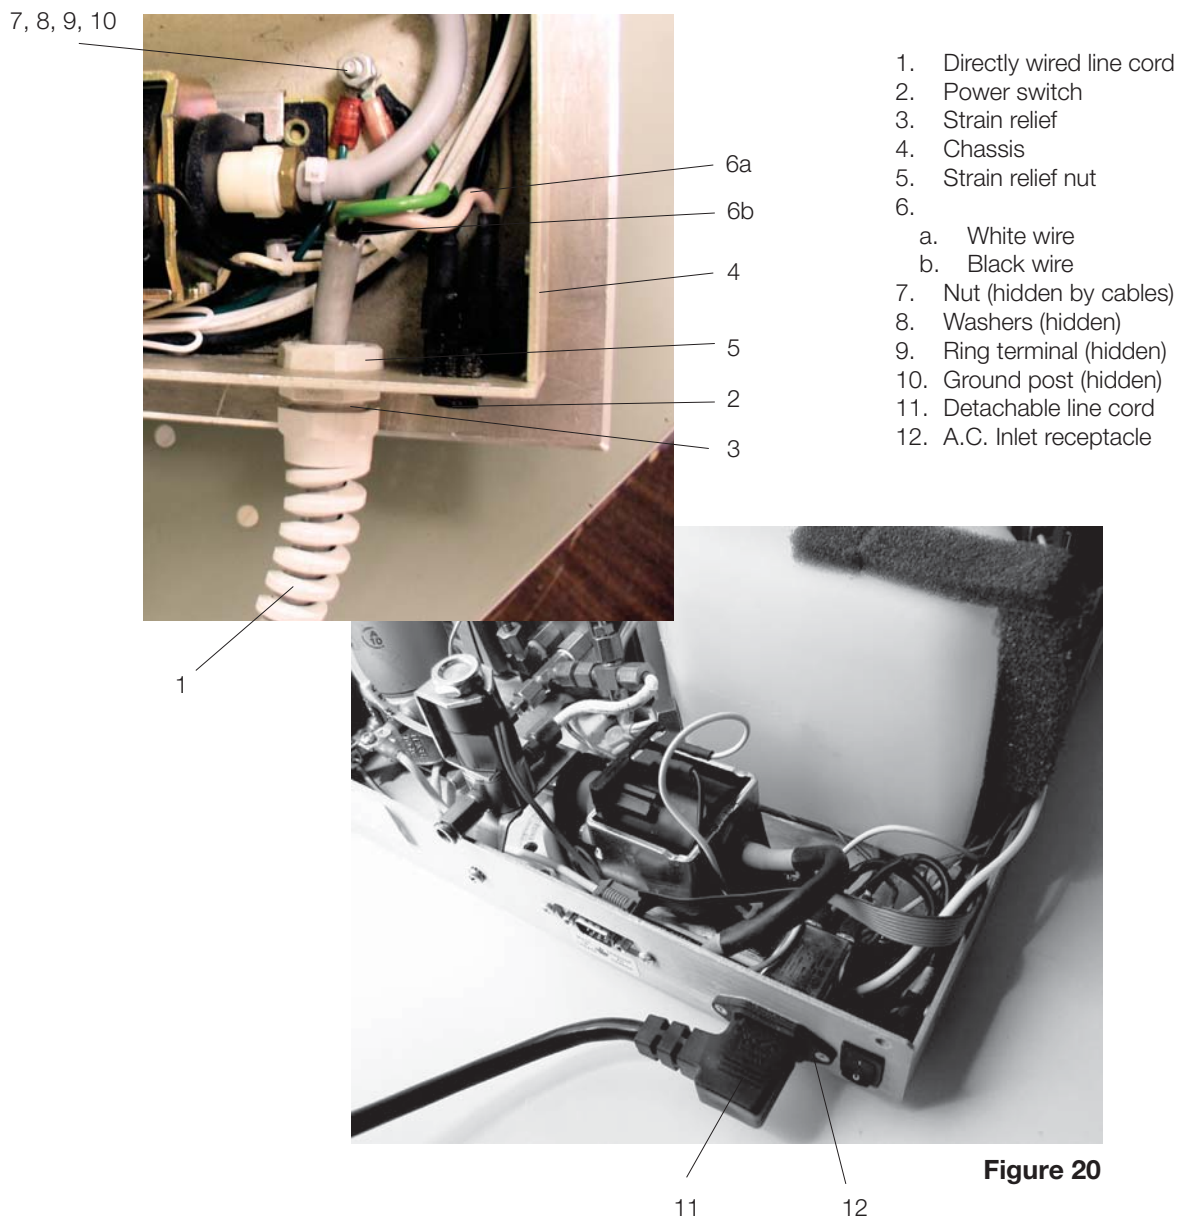

Figure 20
To remove a power cord (1) wired directly to the power switch (2), proceed as follows (see Figure 20):
2. Use a 7/8-inch wrench and a 15/16-inch wrench or two adjustable wrenches to undo the bulkhead strain relief (3). Do not crush any wires between the inside of the chassis (4) and the wrench. Retain the attaching nut (5) from inside the chassis.
4. Remove the nuts (7) and washers (8) securing the ground wire ring terminal (9) to the ground post (10) using an 11/32-inch wrench.
To replace/reinstall a power cord, proceed as follows (see Figure 20):
To remove a detachable power cord (11) connected to the unit through a panel mount A.C. inlet receptacle, proceed as follows (see Figure 20):
1. Turn the power switch (2) OFF, and unplug the power cord from the wall outlet.
2. Disconnect the power cord from the panel mount A.C. inlet receptacle (12).
To replace/reinstall a detachable power cord (11), proceed as follows (see Figure 20):
2. The A.C. inlet receptacle (12) is keyed. Note the shape of the cord connector and the corresponding shape of the receptacle. Plug in the connector.
3. Plug the cord into the wall receptacle and turn the power switch (2) ON. Observe the LCD and indicator lights to determine that power is present.